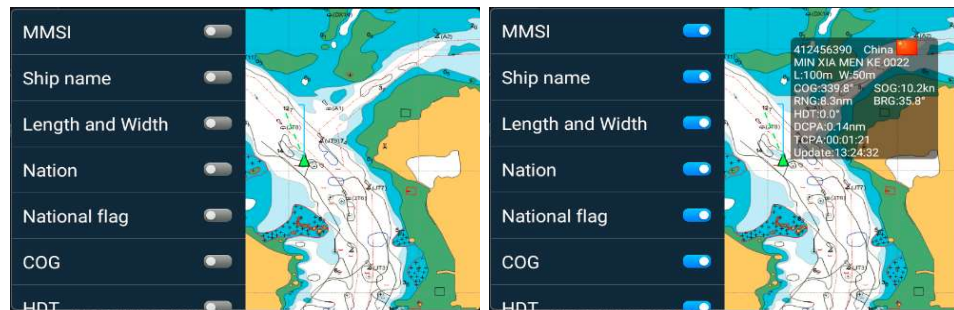

Figure 27 - Information display content.
6. Information display content: Only when the AIS ship information display mode is set to custom mode, the information display content is displayed, and the displayed content can be selected, including MMSI, ship name, nationality, national flag, course, heading, and bearing, speed, distance, DCPA, TCPA, latest update, as shown in the Figure 27.